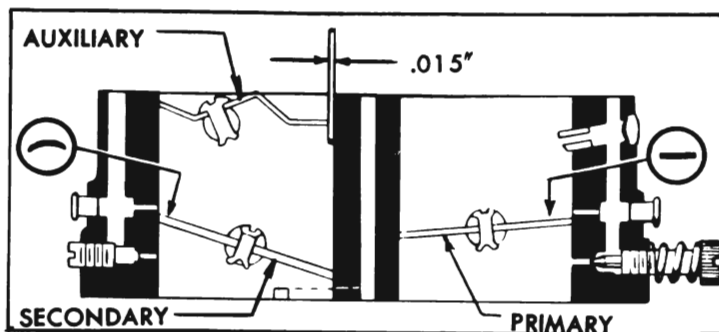

Figure 3-93—Installation of Throttle Valves
3. Reinstall each throttle valve in the same barrel of throttle body from which it was removed, as shown by identification marks made before removal. The dash mark on the *primary* valves and the crescent mark on the *secondary* valves must be toward top of body and on same side as the idle ports in barrel. See figure 3-93. Loosely install *new* valve screws and carefully align the valves with the scribe marks previously made along edges of valve shaft, then tighten screws.
7. Install auxiliary valves on shaft with *new* screws and position them so that when fully closed the middle of inner edge of each valve has .015" clearance with wall of barrel, measured with a wire gauge. See figure 3-93. Valves must be free of binding throughout entire range of travel. After tightening valve screws stake the ends.